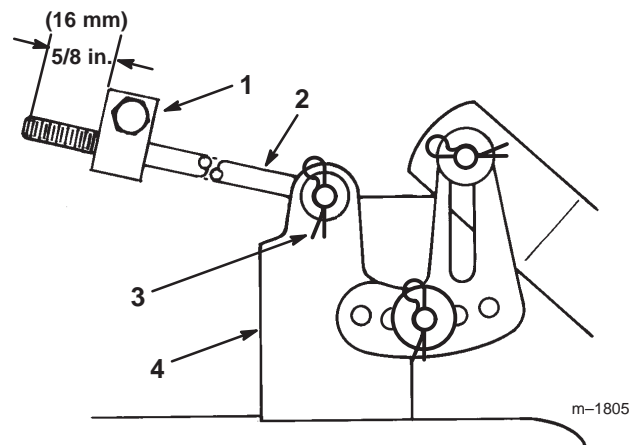

Figure 50
- Measure the length of the rod extending out of the front of the adjusting block on the sides of the chassis (Fig. 50). If the rod length is not 5/8 in. (16 mm), remove the hairpin cotter and washer from the end of the rod (Fig. 50) and turn the rod until the 5/8 in. (16 mm) dimension is obtained. Then install the end of the rod into the hole in the mower mount and secure it in place with the washer and hairpin cotter. Repeat this procedure on the opposite side of the mower.